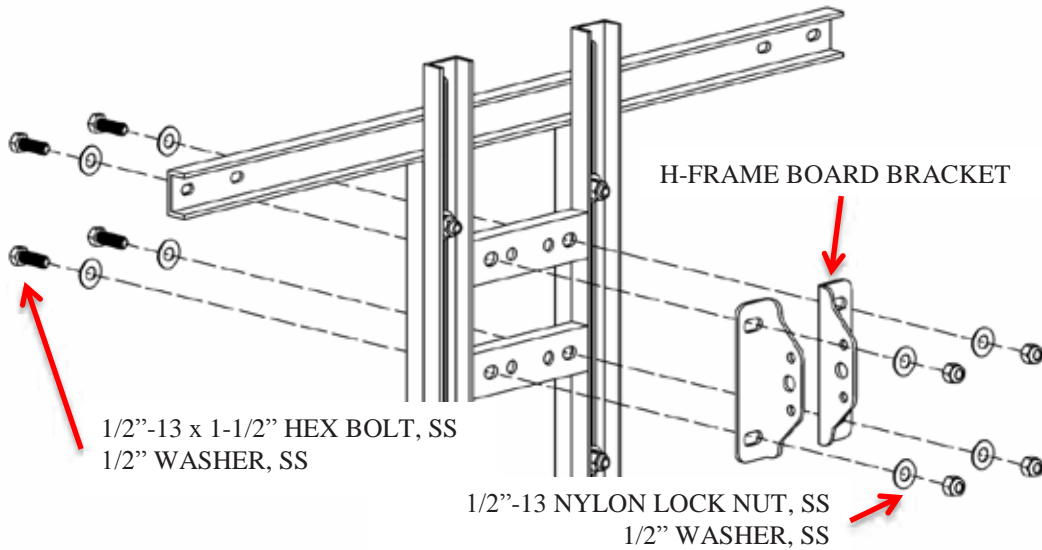

Figure 3
3. Attach H-Frame board bracket to the inner H-Frame slot channel holes. Use 1/2" hex bolt hardware as shown (Figure 3). Set the distance between brackets to be 3-3/8" as shown (Figure 4). Do not tighten hardware.